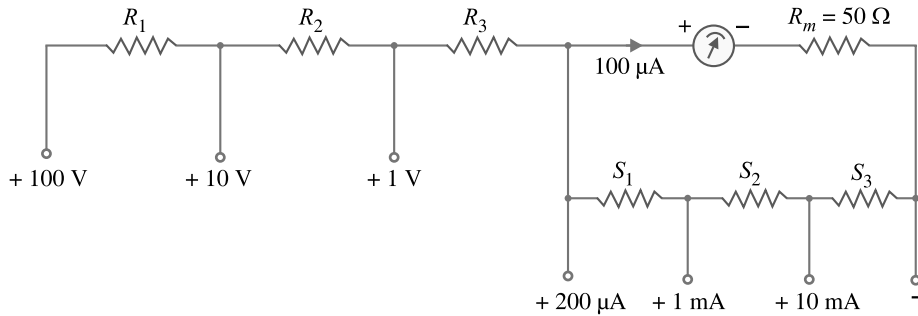

Fig. 20.6
**Typical multimeter circuit.** Fig 20.6 shows a typical multimeter circuit incorporating three voltage and current ranges.